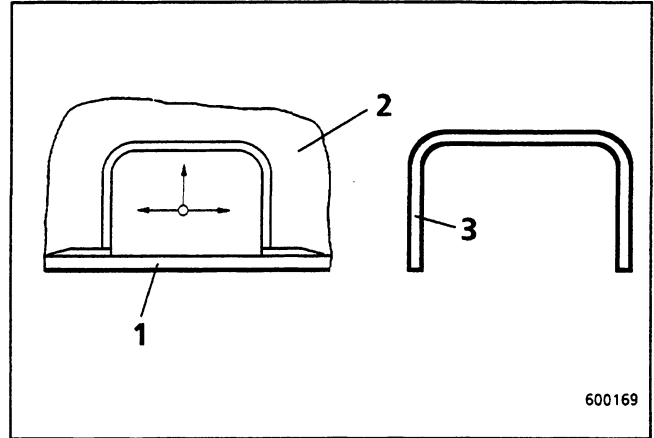

Fig. 59
3. Attach backing strip (3, fig. 59), but only to the web-plate edges.